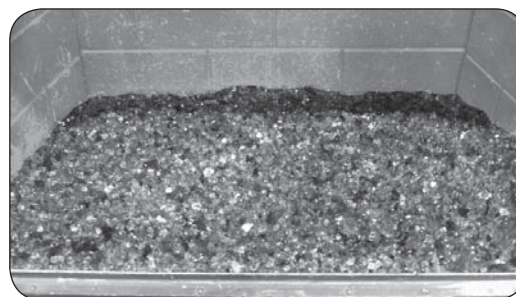

Fig. 8-6
Note: At this stage the burner will function as designed; however, more glass / gems may be added around the burner for decorative purposes. If glass / gems are desired behind the burner pan, they may be left at a lower level than the back of the pan, as shown in Fig. 8-6, or raised up to or above the level in the back of the pan.
2. Add additional glass / gems around the burner pan as desired (Fig. 8-6).